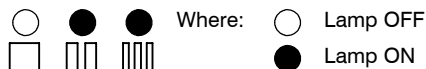

Fig. 7.11
- 4 The lamps should give the indication as in Fig. 7.11 (coefficient K setting). If not, press the reset button repeatedly to obtain it.